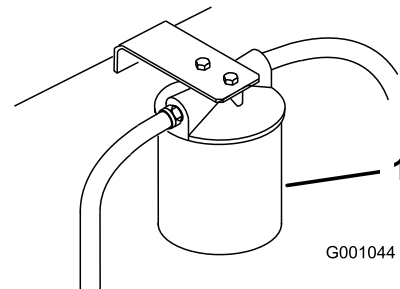

Figure 69
3. Place a drain pan under the filter, remove the old filter, and wipe the filter adapter gasket surface clean (Figure 69).